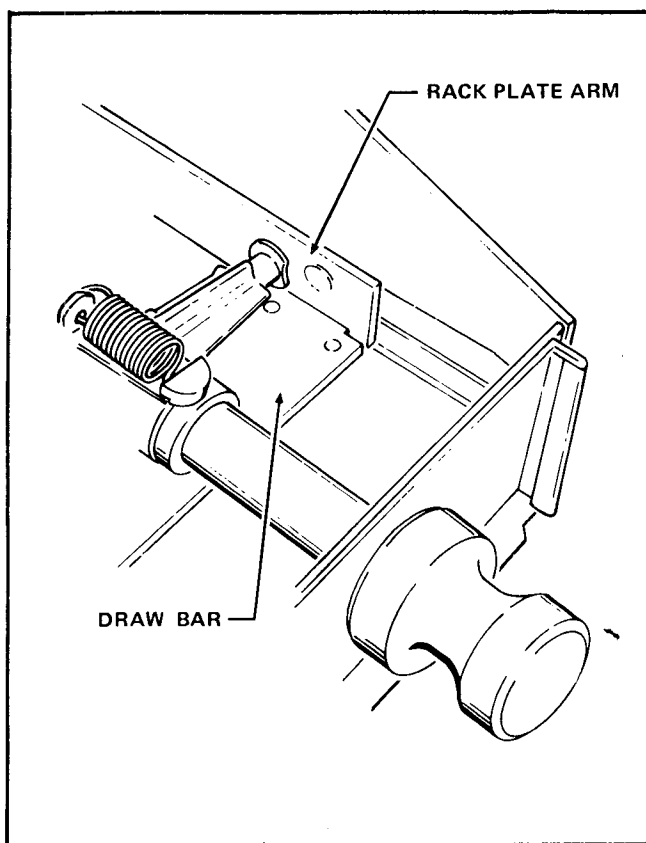

FIGURE 4-4
2. Check to be sure the right end of the Draw Bar is properly fit under the notched part of the Rack Plate Arm. Compare with the left end fitting of both parts. See Figure 4-4.